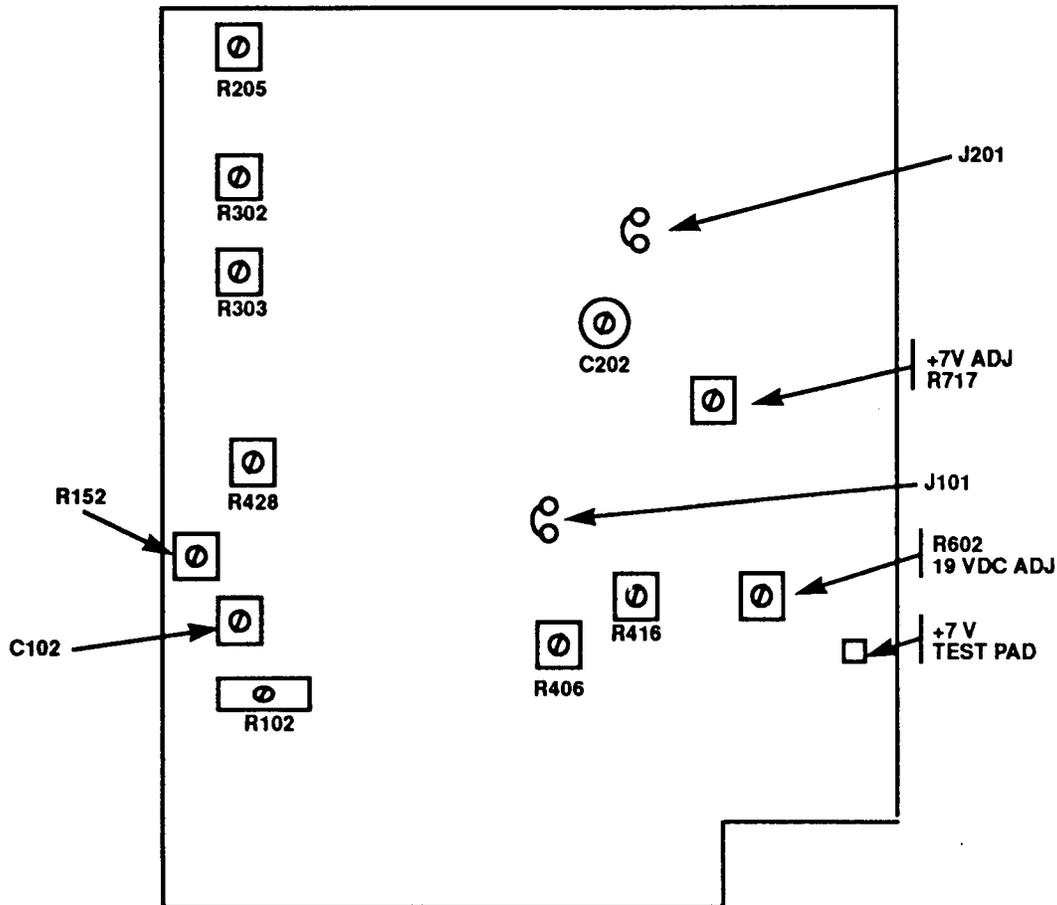

Figure 2. Adjustment locations, model 3466A - top view.
- (1) Set calibrator to **STANDBY**.
- (2) Press TI **RANGE 20** pushbutton.
- (3) Set calibrator for a 19 V dc output. Adjust R602 19 VDC ADJ (fig. 2) for a 19.000 V TI indication (R).
(1) Adjust R416 (fig. 2) for a TI indication equal to calibrator output display rounded to TI digits of resolution.
(2) Adjust R406 (fig. 2) for a TI indication equal to calibrator output display rounded to TI digits of resolution.
(3) Adjust R428 (fig. 2) for a TI indication equal to calibrator output display rounded to TI digits of resolution.
- (3) Set calibrator for a 19 V, 200 Hz output. Adjust R303 (fig. 2) for a 19.000 TI indication (R).
- (4) Set calibrator for a 1.9 V, 200 Hz output. Adjust R302 (fig. 2) for a 1.900 TI indication (R).
- (5) Repeat (3) and (4) above for best compromise.
- (6) Set calibrator for a 19 V, 10 kHz output. Adjust R102 (fig. 2) for a 19.000 TI indication (R).
- (7) Set calibrator for a 1.9 V, 10 kHz output.
- (8) Press TI **RANGE 2** pushbutton. Adjust C102 (fig. 2) for a 1.9000 TI indication (R).
- (9) Set calibrator for a 1.9 V, 100 kHz output. Record TI indication.
- (10) Press TI **RANGE 20** pushbutton.
- (11) Set calibrator for a 19 V, 100 kHz output. Adjust C202 (fig. 2) for a TI indication numerically the same as recorded in (9) above (R).
- (12) Set calibrator for a 1.9 V, 100 kHz output.
- (13) Press TI **RANGE 2** pushbutton and record TI indication.
(14) Repeat (10) through (13) above until numerical indications are the same, or best compromise.
- a.** Measure voltage at +7V TEST PAD (fig. 2) with multimeter. If required, adjust +7V ADJ R717 (fig. 2) for a multimeter indication between 6.99 and 7.01 V dc (R).
- e.** Connect multimeter to J101 (fig. 2). Adjust R152 (fig. 2) for a multimeter indication of  $0 \pm 100 \mu$ V (R).
- f.** Connect multimeter to J201 (fig. 2). Adjust R205 (fig. 2) for a multimeter indication of  $0 \pm 200 \mu$ V (R).